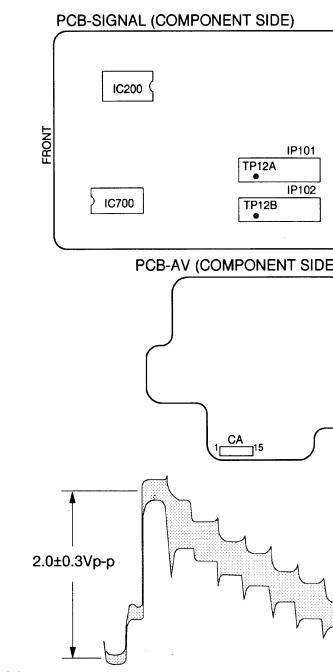

Fig 10
- 9: Terminate the service adjustment mode, ("1" button). See Fig 10.